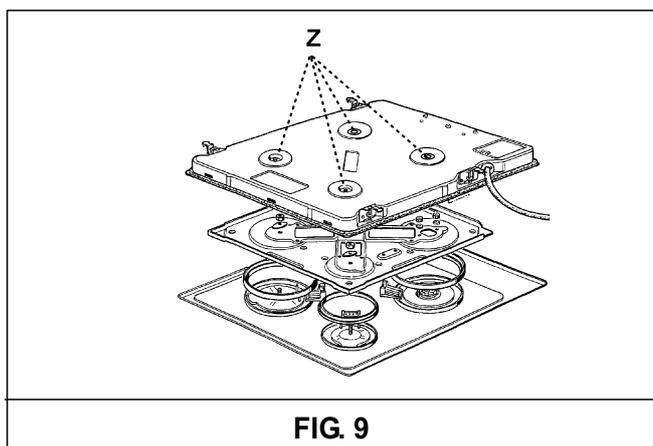

FIG. 9
**a)** remove the hotplate from the top of the cabinet, overturn it, unscrew screw "Z" and remove under part (see fig. 9).
For access to the various parts, remove the hotplate from the top of the cabinet. Then overturn it, unscrew screw "Z" and remove under part. (see fig. 9).